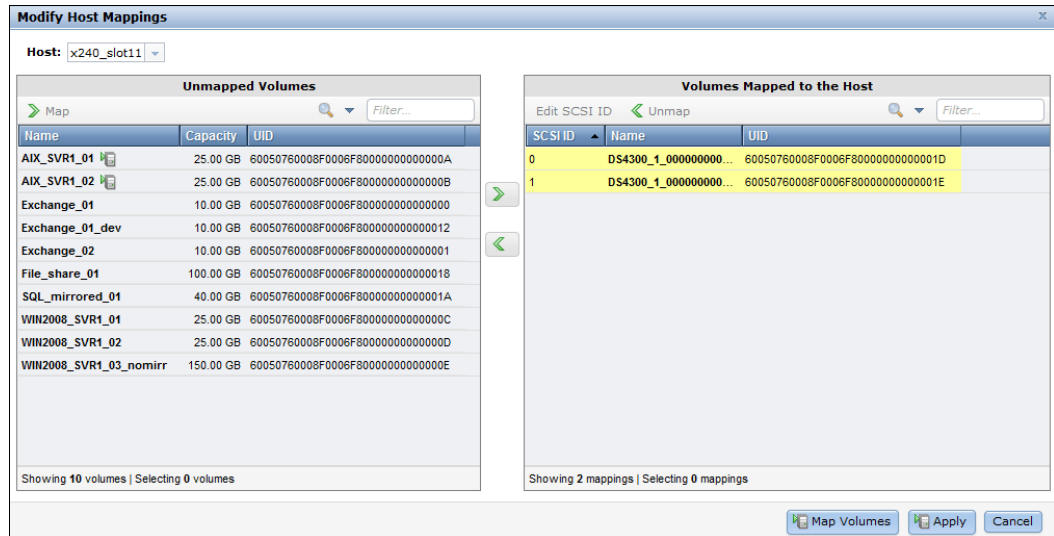

Figure 7-17 Storage Migration Wizard s- Apply Mapping to Windows 2008 host
8. Map the newly migrated volume to the host, and when the mapping is complete, click **Apply** or **Map Volumes** as shown in Figure 7-17 on page 281.